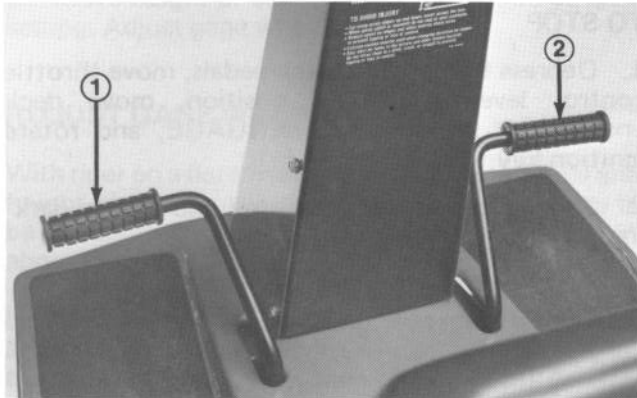
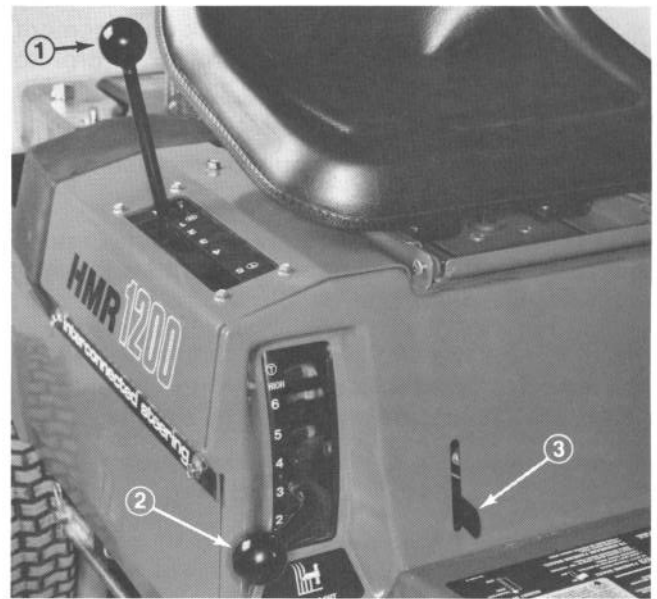

Figure 9
Figure 11
Clutch Pedal (Fig. 9) — Foot operated clutch pedal is used in conjunction with the gear shift and brakes. Depress clutch fully when shifting gears or braking.
Brake Pedal (Fig. 9) — Foot operated pedal, which when depressed, actuates a disc brake assembly at the side of each transmission. Clutch pedal must also be depressed while braking.
Parking Brake (Fig. 11) — Parking brake is used in conjunction with standard brake assembly. When brake pedal is depressed and parking brake lever is pulled upward, a latch plate secures the brake assembly in the engaged position preventing the machine from moving.
Gear Shift (Fig. 11) — Transmission has five forward speeds, neutral and reverse, and has a "Z" shaped pattern. An interlock switch, which prevents engine from being started when the transmission is in gear, is mounted on the top of one transmission. Operator must be on the seat to engage or operate transmission.
Height-of-Cut Control (Fig. 11) — Height-of-cut control varies the cutting height from 1 1/2 to 4 1/2 inches (38 to 114 mm) in seven increments. Gage wheels on deck must be reset when height-of-cut is changed.
3. To release the parking brake, depress brake pedal (Fig. 9), and push parking brake lever (Fig. 11) down to return it to its disengaged position. Release brake pedal slowly.
2. Move height-of-cut control (Fig. 11) into desired setting. Adjust gage wheels.